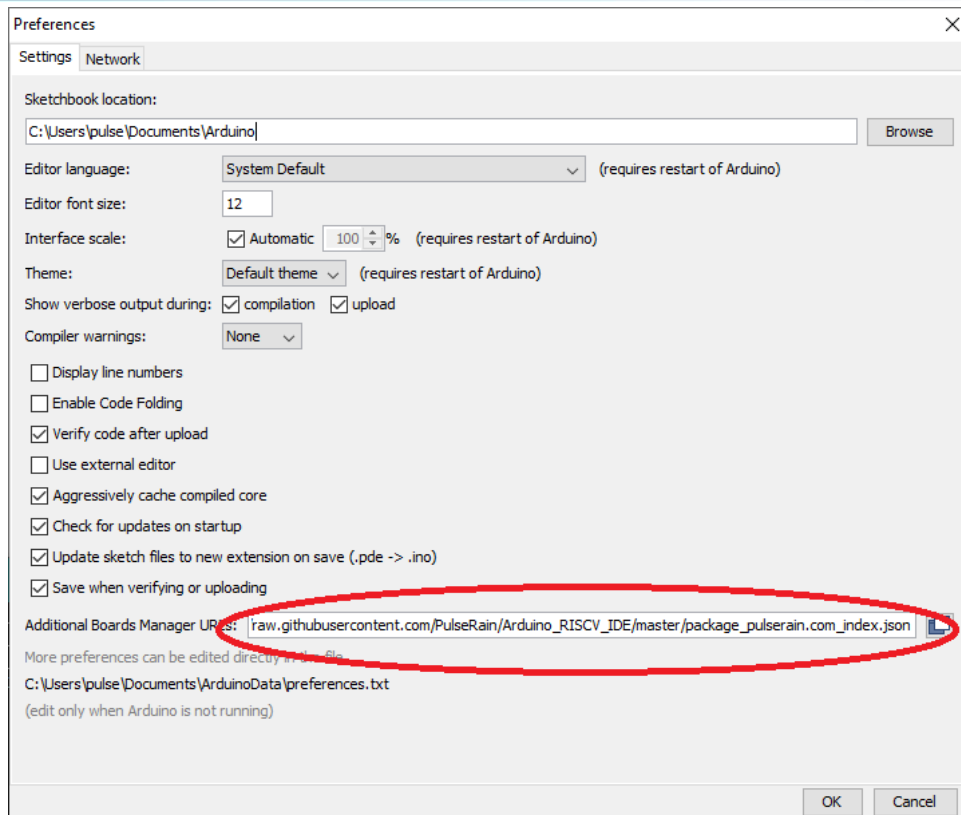

Figure 5-4 Arduino IDE, Preferences Dialogue
- 3) The File / Preferences menu will bring out a dialog like the one shown in Figure 5-4. Please set the "Additional Boards Managers URL" to